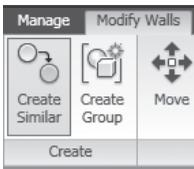

Figure 4.31
5. All that's left to do is draw the last segment and close the fireplace walls. To do that, select only one of the masonry walls of the fireplace, right-click to open the context menu, and select Create Similar (Figure 4.31).
- From the 3D view, select the wall running into the fireplace, as shown earlier in Figure 4.31. Open the Element Properties dialog box, and change the top constraint to